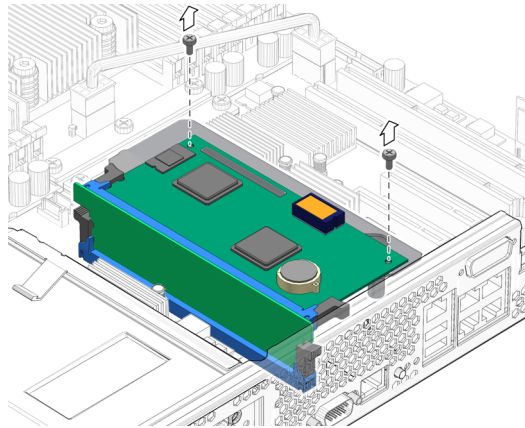

FIGURE 4-18 Removing the System Controller Assembly Screws
2. Remove the two screws securing the system controller assembly to the system controller board bracket (FIGURE 4-18).